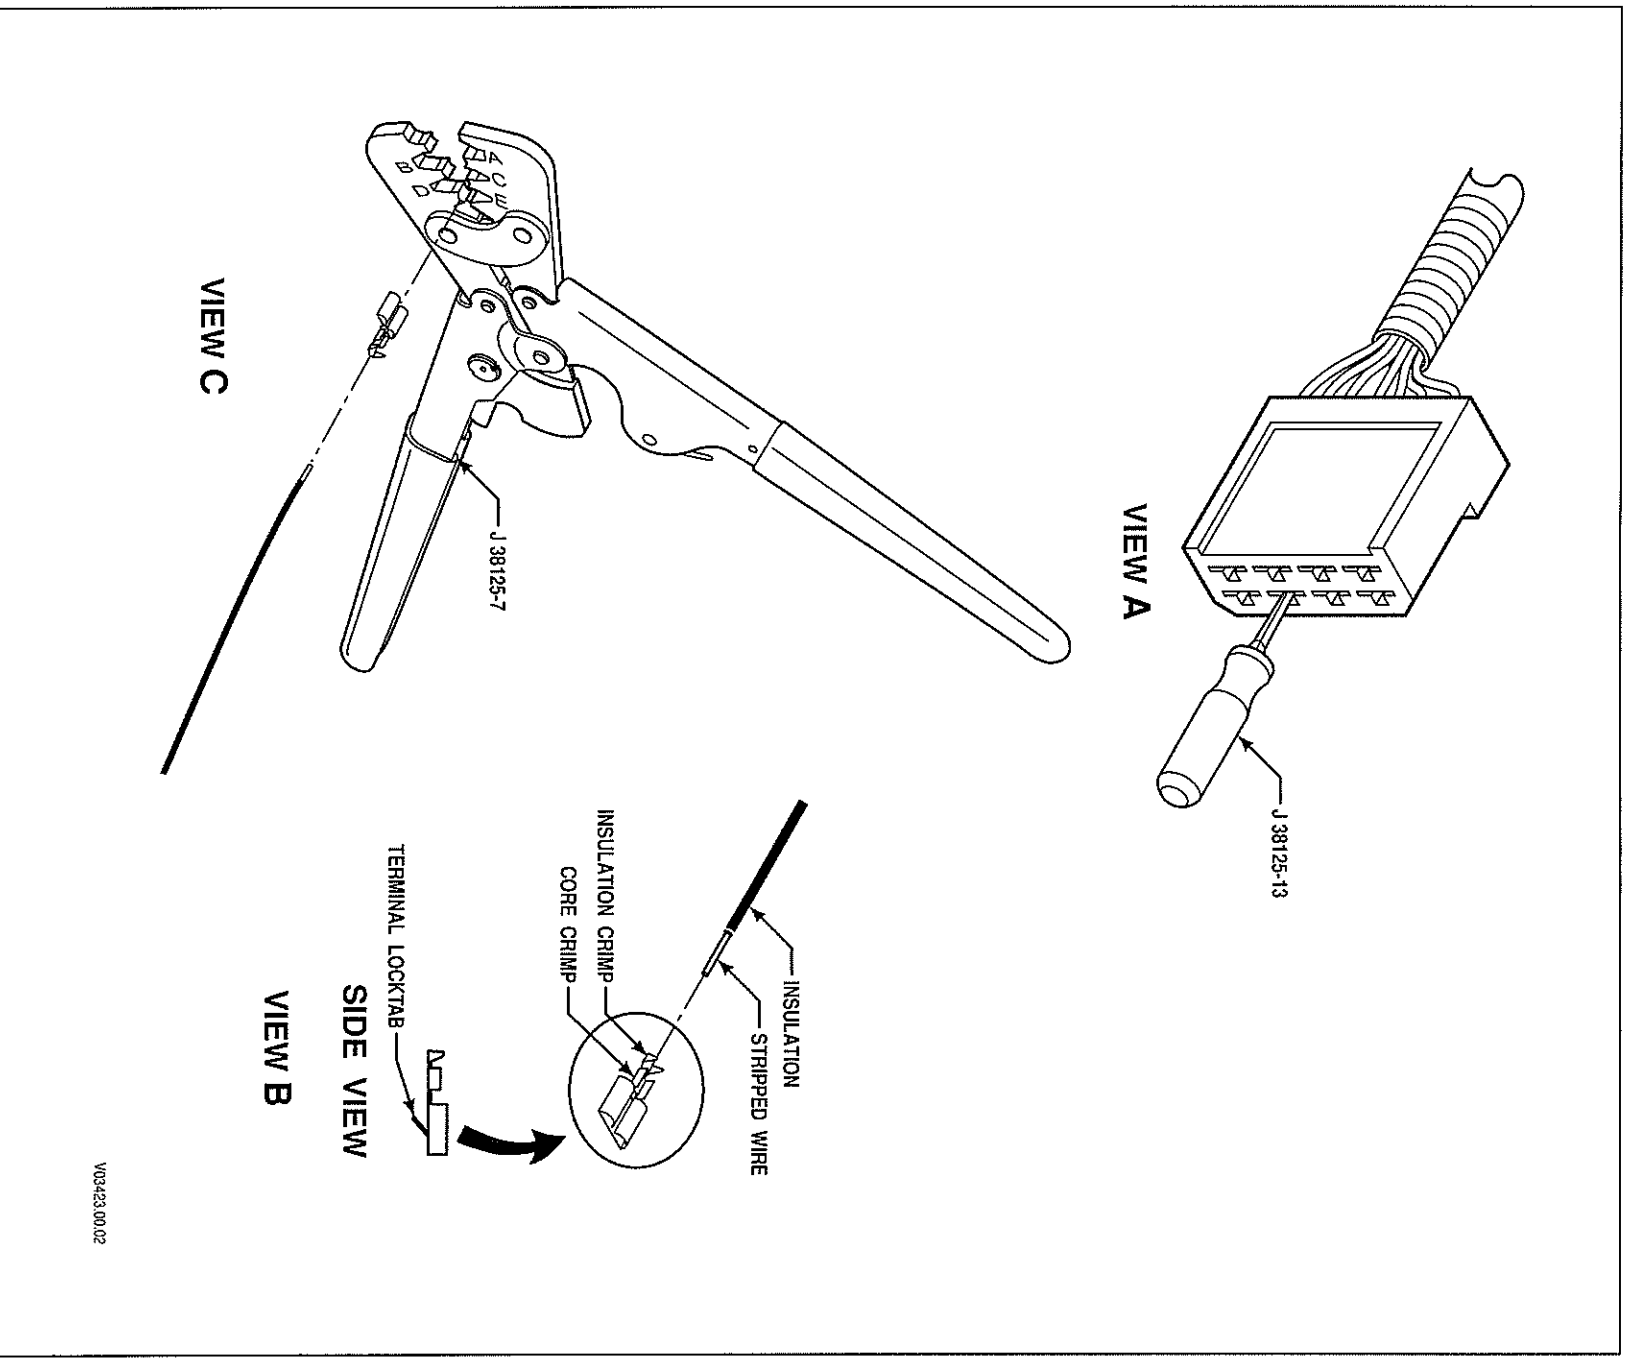

Figure E-12. Amp Products Connectors (8-Way RMR Device (Hand Lever))
1. Insert removal tool J 38125-13 into the small notch at the front of the connector to release the terminal locktab (Figure E-12, View A).
1. Strip wire to approximately 4.0 ± 0.25 mm (0.16 ± 0.01 inch) (Figure E-12, View B).
2. Place new terminal onto crimping tool J 38125-7, anvil “E” (Figure E-12, View C).
5. Crimp the stripped section of the wire (Figure E-12, View B).